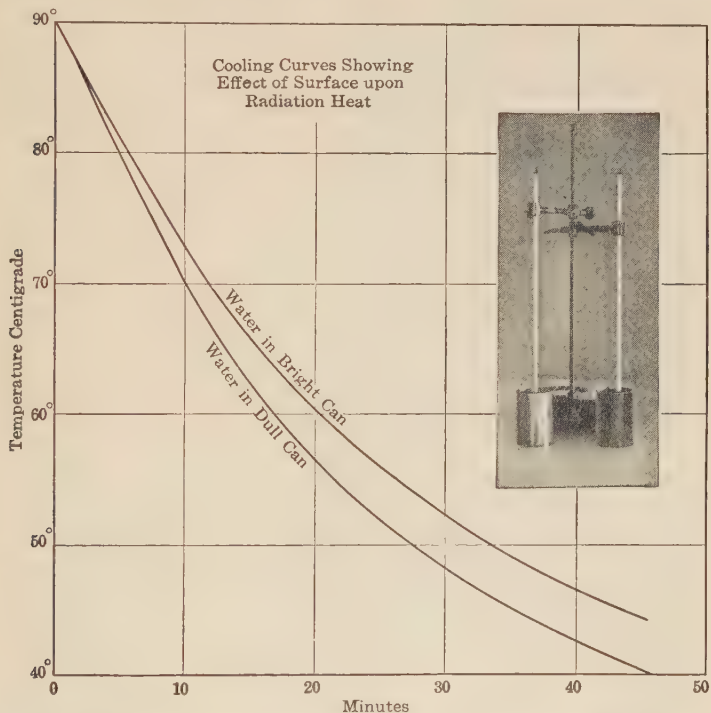

FIG. 45. — Curve shows that the dull black can radiates heat faster than the smooth white can does.
51. Radiation and absorption. Why is the bottom of the tea-kettle dull and rough, and the inside surface dull and rough, while the exposed outside surface is bright and smooth? Let us pour equal quantities of hot water into two metal cans, one of which has a dull, black, rough surface, and the other a bright, white, smooth surface, Fig. 45. The temperature of the water in the two cans at the start is the same. If we observe the thermometer in each can at ten-minute intervals, it will be seen that the water in the black, rough can is cooling faster than that in the bright,
smooth one. A time-temperature curve for each of the cans is shown in Fig. 45. This is due to the fact that one is radiating heat faster than the other. A smooth, bright surface helps to retain the heat.